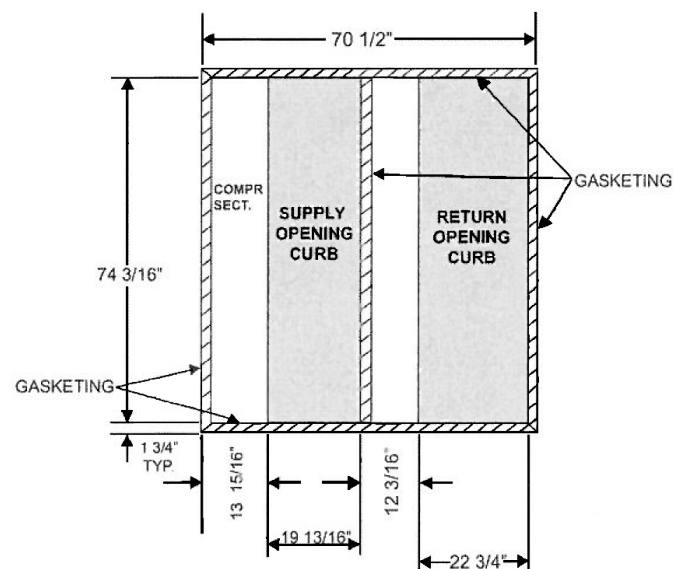

Fig. 2 - Plan View of Existing Curb Used with CRADCURB004A00
IMPORTANT: Before ordering curb adapter, contractor must confirm that dimensions of existing curb on job site matches dimensions of existing curb in Fig. 2 and 3.
- A. These curb adapters are designed to fit specific existing roofcurb dimensions. The anticipated existing curb is dimensioned in Fig. 2 and 3. In the event that your specific job has an existing curb that does not meet these dimensions, this curb adapter will not fit properly.
Before ordering or installing the curb, verify that the existing curb dimensions match those in Fig. 2 and 3.
3. Measure the existing curb and make sure it matches the dimensions in Fig. 2 and 3. If the dimensions do not match, the curb adapter will not fit the curb properly.
5. Remove and gasketing on the top perimeter of the existing curb. Install new (provided) gasketing to the top perimeter of the existing curb, and around duct openings. (See Fig. 2 and 3.)